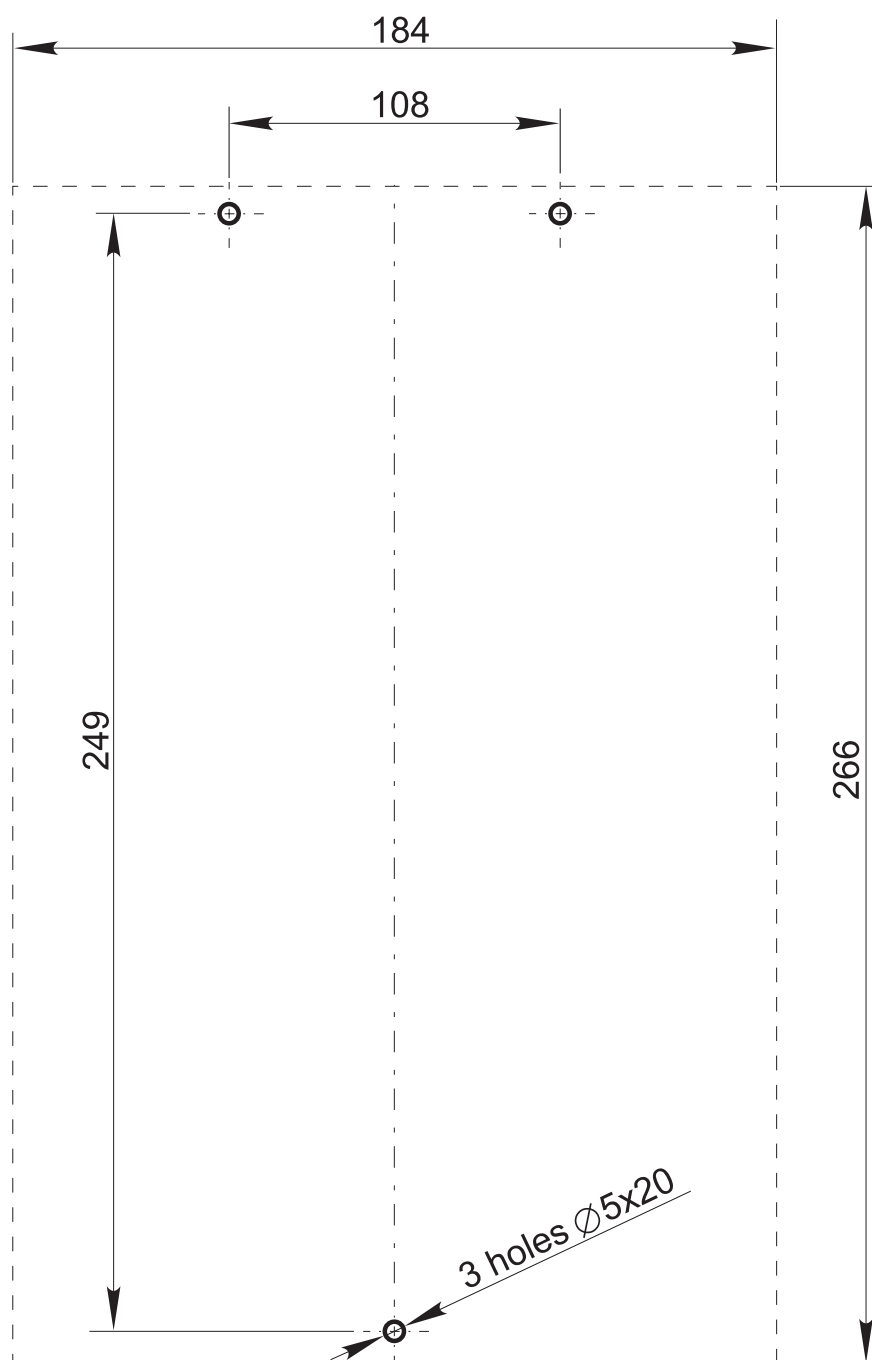

Figure 7. Hole pattern for SPU mounting
- designate the location of the SPU (7) and mark the mounting holes according to Figure 7;
- lay the power cable (4), the control cable (5) and the ground bus;
- undo the M8 bolt of the mount bracket (9) at the gate bottom, take out the mount bracket and connect the power cable and the control cable;
- restore the mount bracket (9), connect the ground bus to the M8 bolt;
- mount the gate post (1) upright into service position, anchor it temporarily;
- connect the power cable (4) and the control cable (5) to the SPU (7);
- connect the remote control panel cable (6) to the SPU;
- take off the cover (8);
- turn the rotation unit (11) in either direction at an angle of approx. 90° relatively to the central position;
- mount the swing panel (2) into the respective mounting seat of the rotation unit (11), fix the swing panel by two M8x30 screws with washers 8;
- return the rotation unit (11) into the initial position;